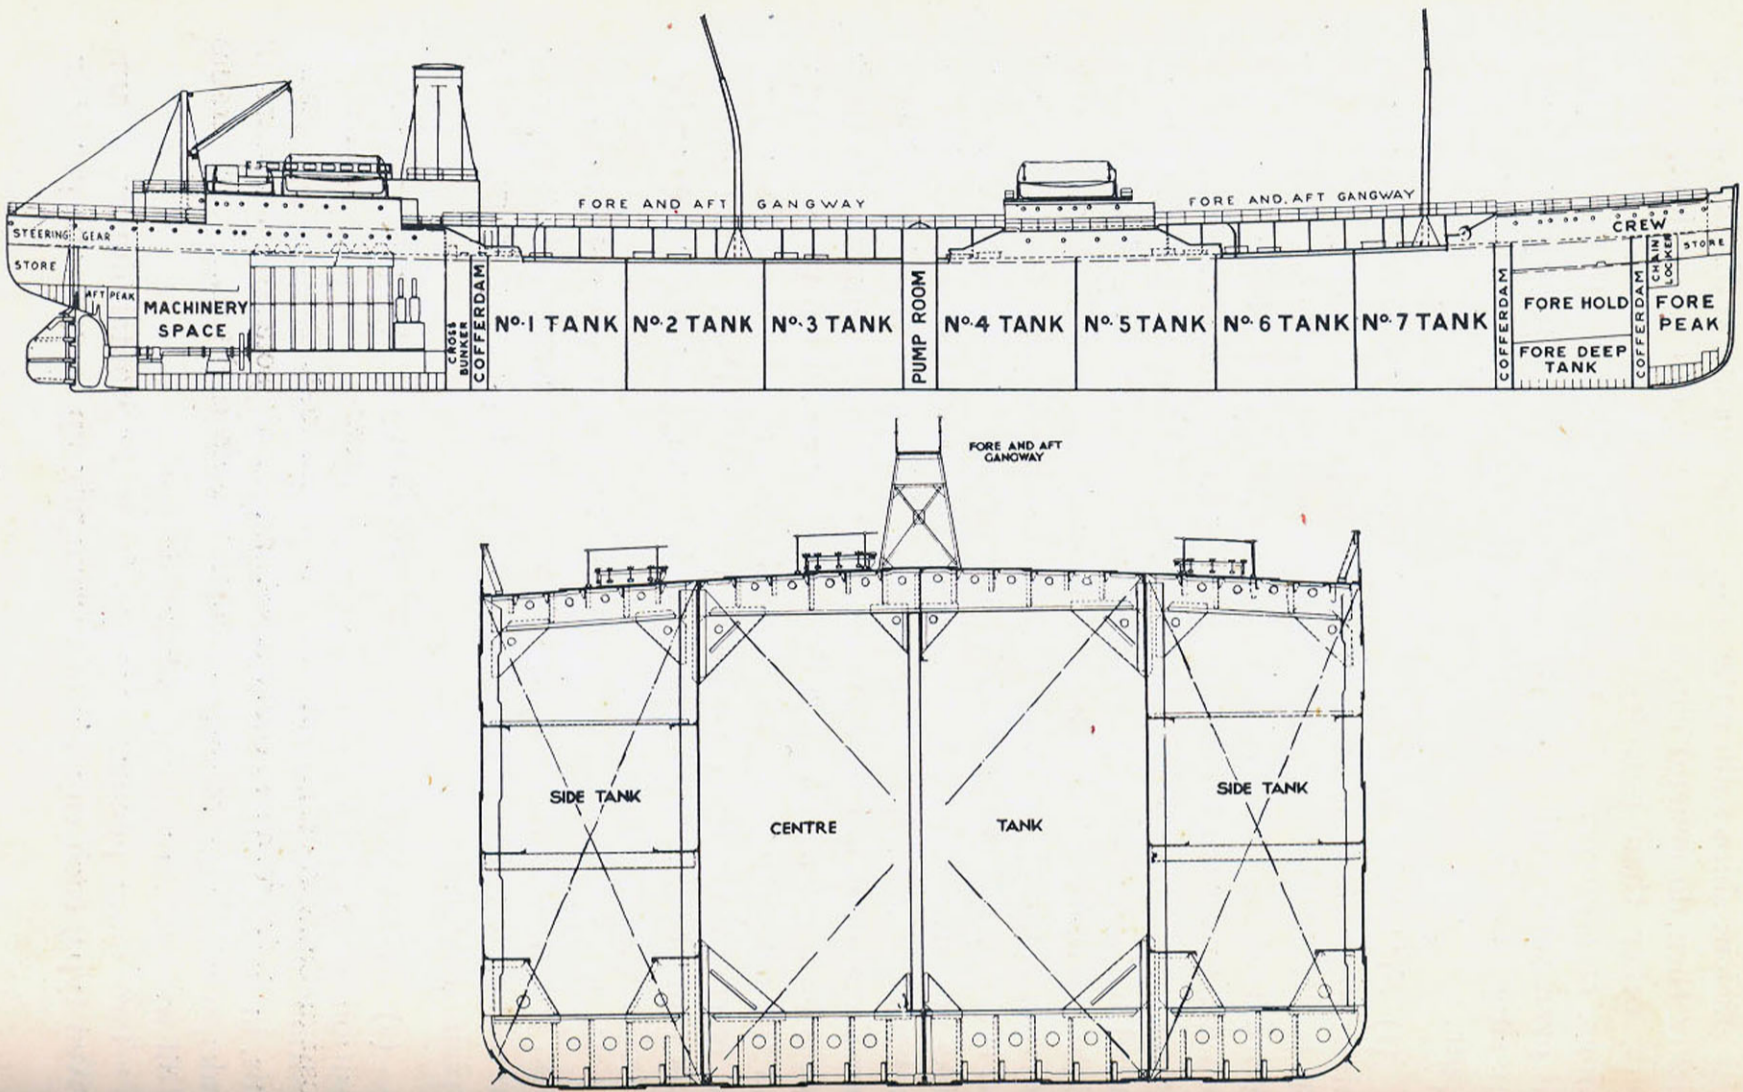

Fig. 1.—Diagram of a modern oil tanker.
(1) *SHIPS' TANKS*.—As will be seen by reference to Fig. 1, which shows the form of one of the Company's modern vessels, the hull is divided into a number of cargo compartments formed by longitudinal and transverse bulkheads, the tanks being numbered from aft to forward, each tank being in fact three separate compartments. At each end of the cargo tanks a smaller compartment (called a "cofferdam") is situated, extending the full width and height of the cargo tanks, but only a few feet in length. This cofferdam isolates the cargo tanks from the other parts of the vessel and is thus a safety space, as it prevents any leakage from the cargo tanks penetrating to other compartments such as the forehold and bunker tanks, and machinery spaces. When the vessel transits the Suez Canal or is in certain ports, the regulations require that these spaces be filled with water, thus forming a seal between the cargo and the other spaces. The cross bunker and forward deep tanks are reserved for the carriage of bunker oil, the forward and aft peak tanks being set aside as water ballast spaces or for the carriage of boiler water, as required.